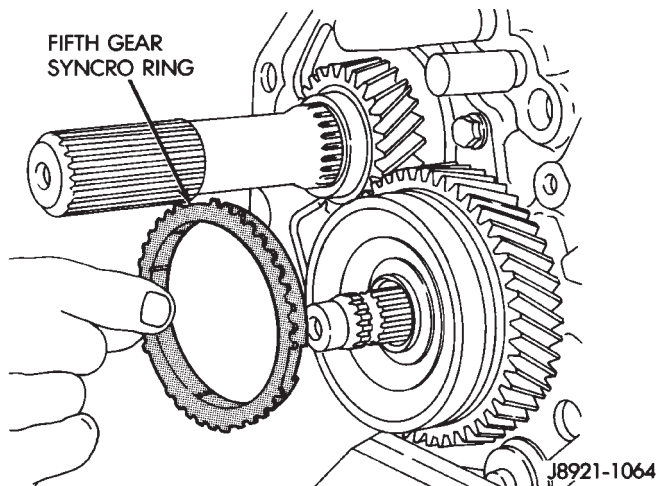

Fig. 57 Remove Fifth Gear Synchro Ring
- (9) Remove fifth gear synchro ring (Fig. 57).